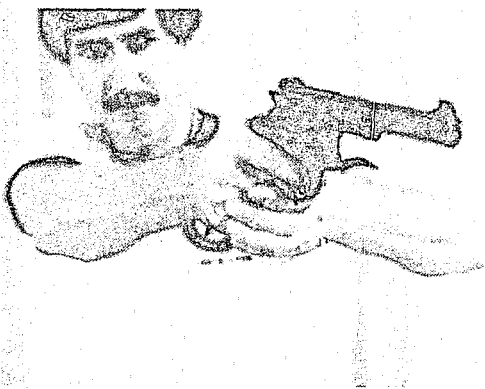

Figure 7-1
1. Loading - Right Hand (See Figures 7-1 through 7-7)
2. Unloading - Right Hand (See Figures 7-1 through 7-7)